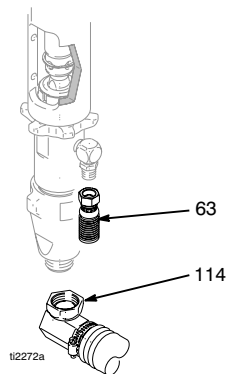

FIG. 7
3. (Fig. 7) Remove suction tube (114) and paint hose (63) (remove at swivel end).